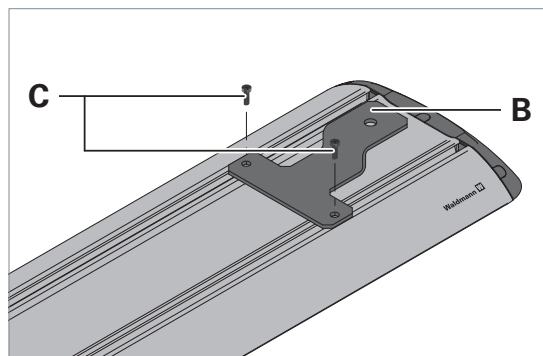
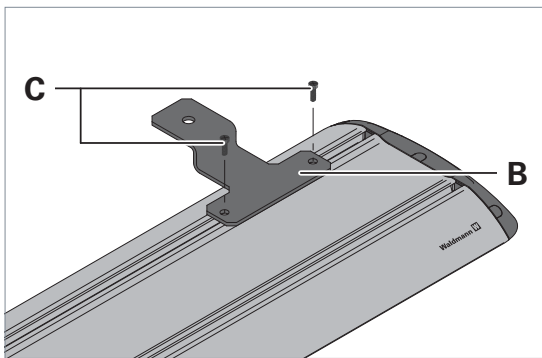

Fig. 6: Mounting the bracket for mounting type "Top, fixed", 1st option.
Fig. 7: Mounting the bracket for mounting type "Top, fixed", 2nd option.
- Mount the two enclosed brackets **B** on the luminaire using the enclosed screws **C** and the slide nuts and tighten the screws, see Fig. 6 or see Fig. 7.